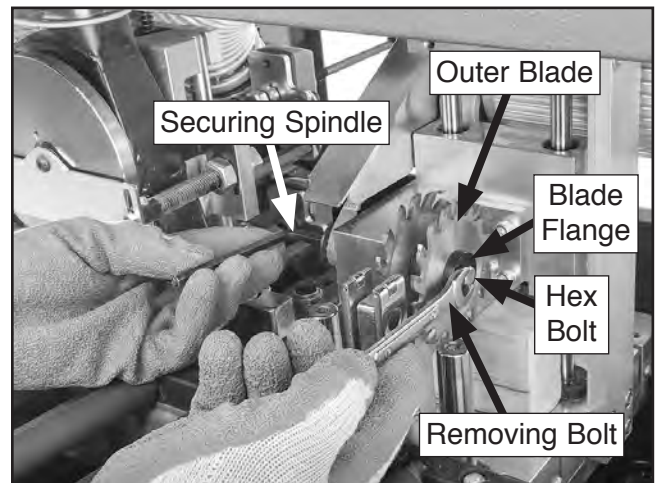
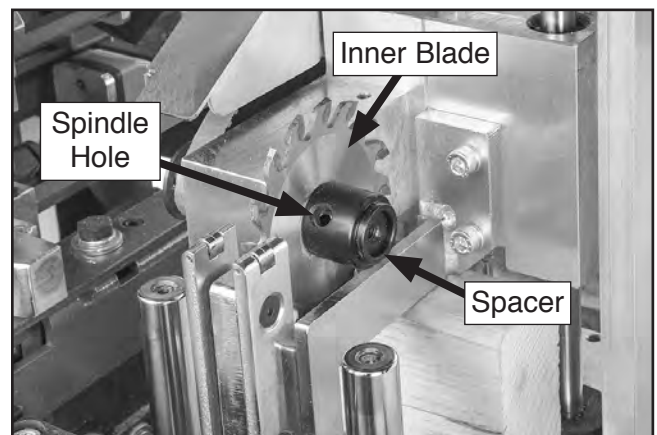

Figure 83. Removing end trimmer blades with dust shroud removed.
Figure 84. Location of inner end trimmer blade and spacer.
3. Use 4mm hex wrench to remove end trimmer dust shroud assembly (see **Figure 83**).
4. Use 6mm hex wrench to secure end trimmer spindle, and use 10mm wrench to remove hex bolt that secures end trimmer blades (see **Figure 83**). Alternatively, secure end trimmer by inserting a hex wrench through hole in spindle (see **Figure 84**).
5. Remove blade flange, outer blade, spacer, and inner blade (see **Figures 83–84**).
Important: Make sure to orient components (see **Figure 84**) in same direction as they were before removal.